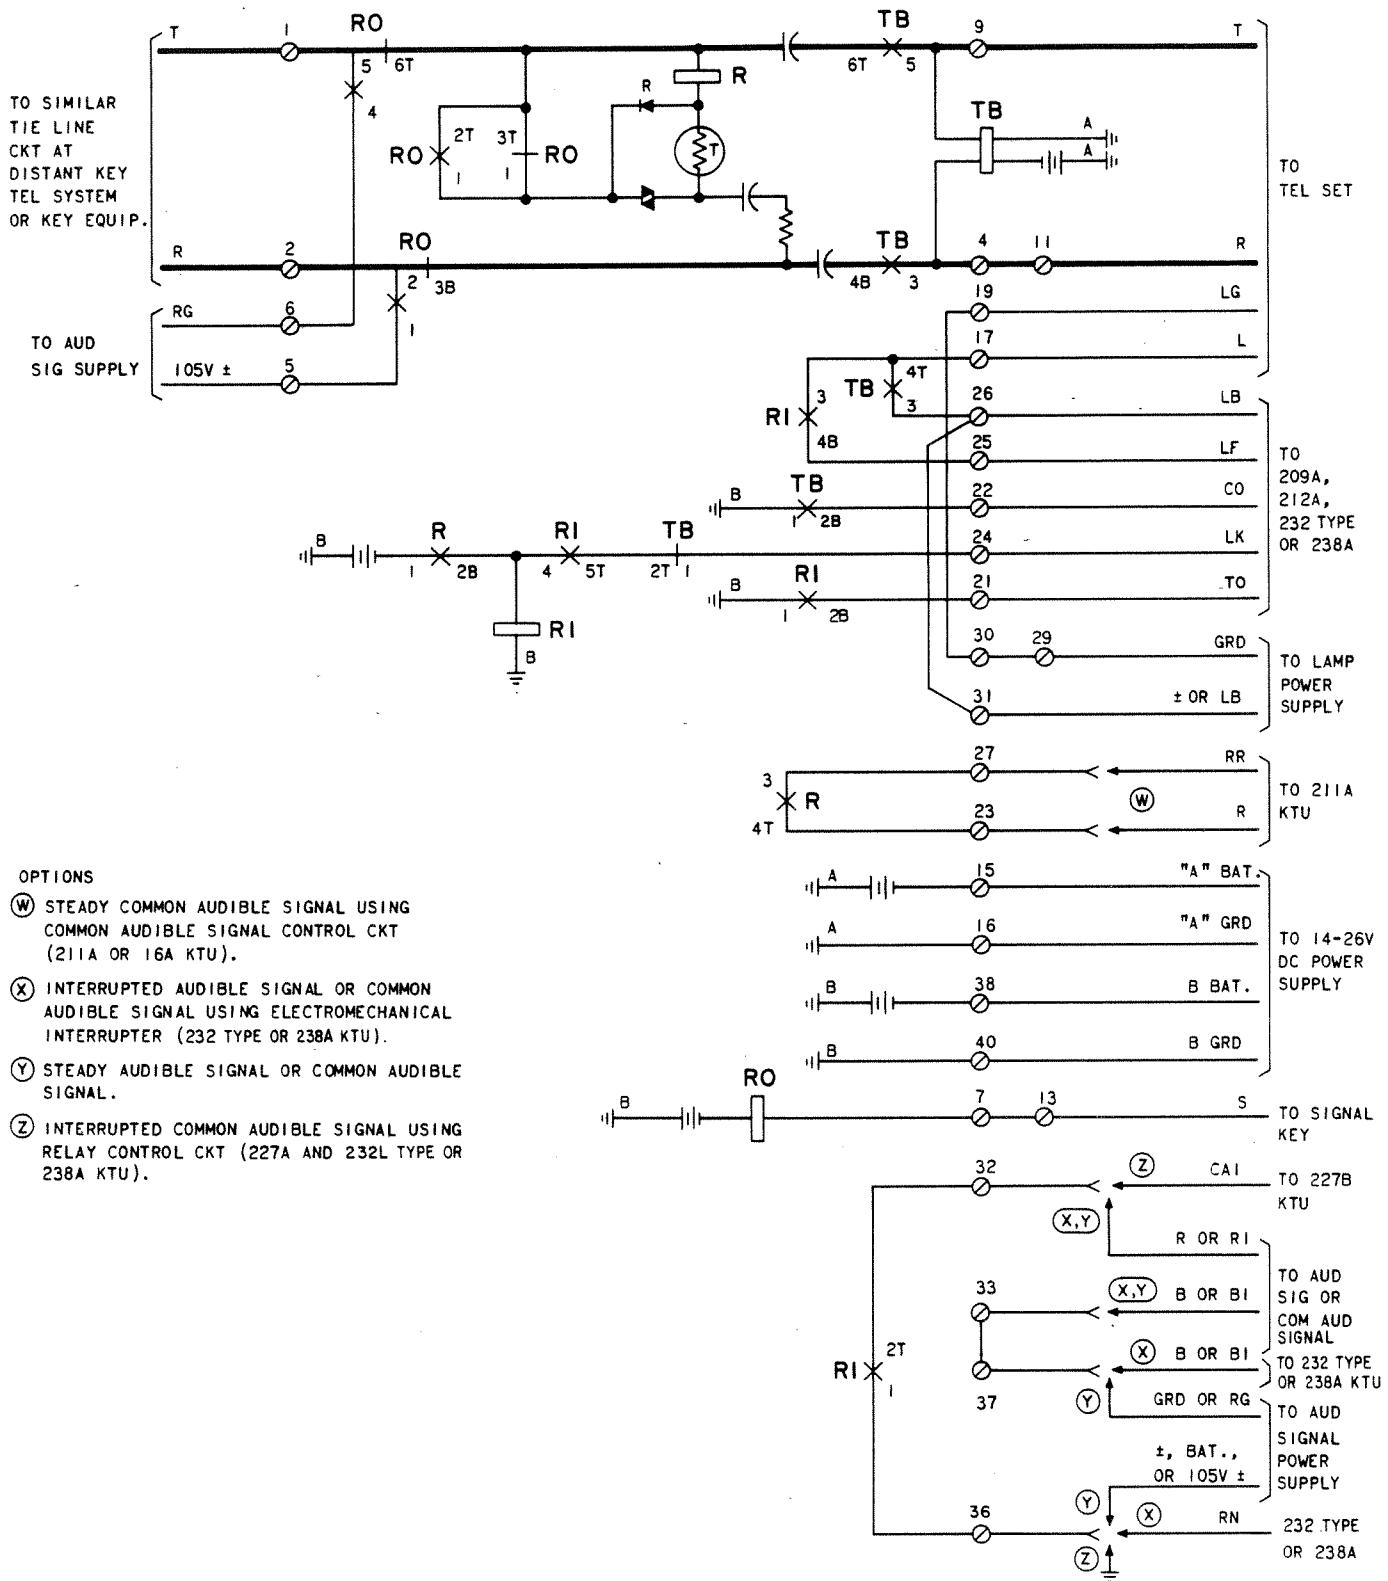

Fig. 6—♦Functional Schematic of 204A KTU (Ringdown Tie Line Circuit)♦
2.09 The 204A KTU (Fig. 6) is used on private (tie) lines to provide: